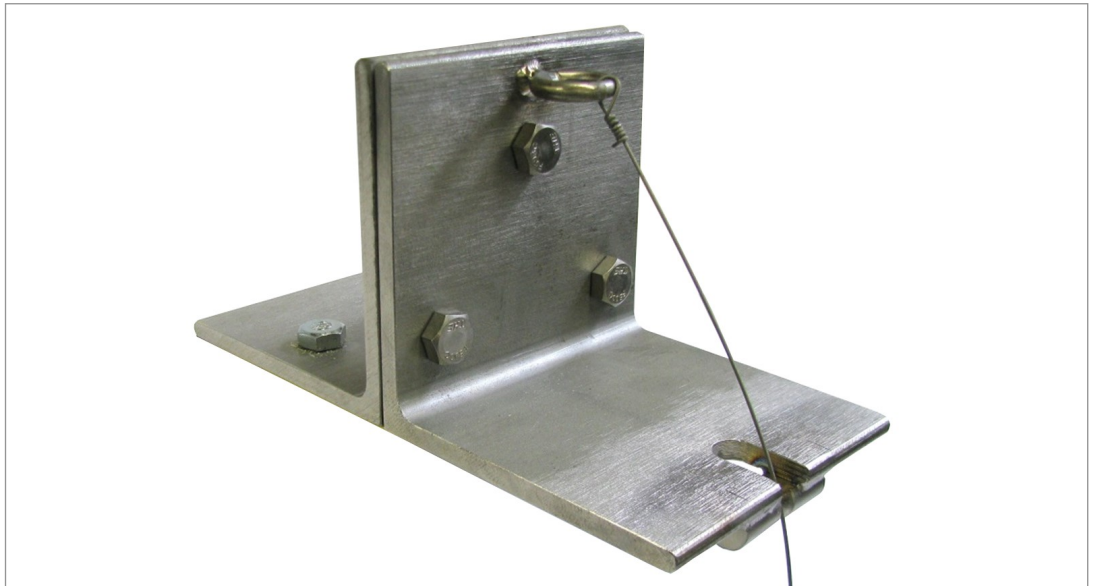

FIGURE 10: *Mounting Brackets With Twisted Wire*
1. The wire for the direct pendulum system is normally anchored at the top of a borehole or in the roof of the gallery directly above the drill hole. If the wire is to be anchored to the floor at the top of the drill hole, two angle brackets are required (as shown in Figure 10); if it will be anchored to the ceiling over the hole, just the bracket with the wire guide is used. Mount the angle bracket(s) as follows:
3. Attach the pendulum wire to the bracket by feeding it through the wire guide and then through the eye bolt. Wind the wire around itself to secure (Figure 10).